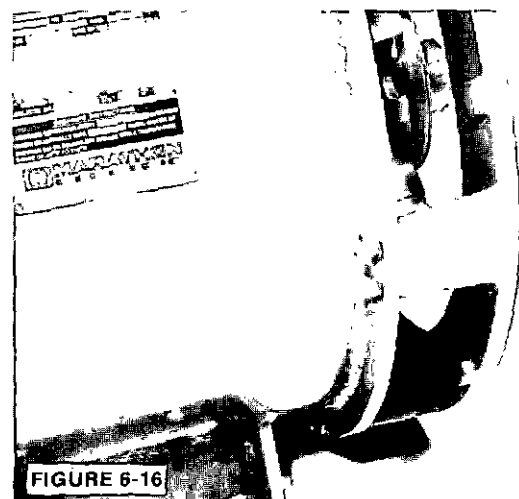

FIGURE 6-16
4. a. For single bearing generators, remove the capscrews holding the SAE adapter to the generator and remove the adapter. (Figure 6-16 and 6-17.)